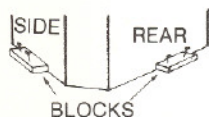

FIG. 2
2. MOVE fireplace into planned location. Unless fireplace will be held securely in position by walls, fasten blocks to floor to prevent fireplace from shifting (Fig. 2).